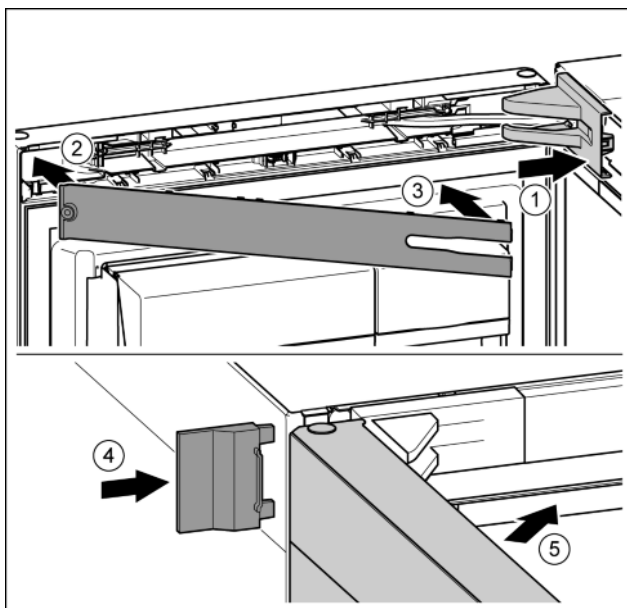

Fig. 23
- Position the bearing bracket and engage. If necessary push apart carefully. *Fig. 23 (1)*
- Position the panel. *Fig. 23 (2)*
- Swing in the panel and click into place. *Fig. 23 (3)*
- Slide on the external cover. *Fig. 23 (4)*
- Close the upper door. *Fig. 23 (5)*